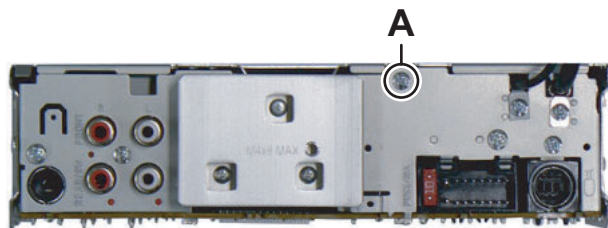

Fig.3
3.1.3 Removing the Main board (See Fig.3, 4 and 5)
- (1) Remove the one screw **A** attaching the Rear Bracket. (See Fig.3)